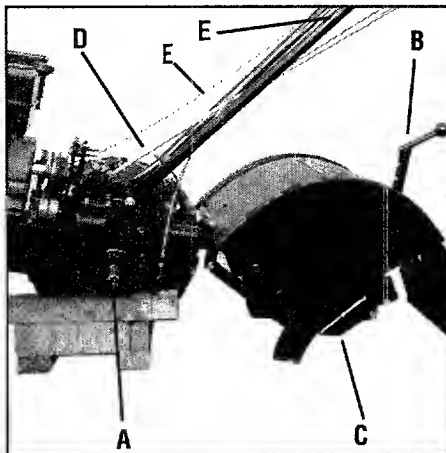

Figure 5-1
Proper lubrication of the tiller is an essential part of your maintenance program. After every 10 operating hours, oil or grease the lubrication points shown in Figures 5-1 and 5-2 and described below.
- Remove wheels, clean wheel shaft (A, Fig. 5-1) and apply thin coating of grease to shaft.
- Grease back, front and sides of depth regulator lever (B, Fig. 5-1).
- Remove tines, clean tine shafts (C, Fig. 5-1) and inspect for rust, rough spots or burrs (especially around holes). File or sand smooth and coat ends of shaft with grease.
- Oil the threads on the handlebar height adjustment flange handle (D, Fig. 5-1).
- Oil the outer casings of the engine throttle cable and the wheel gear cable (E, Fig. 5-1). Allow oil to soak in and then wipe off any excess.